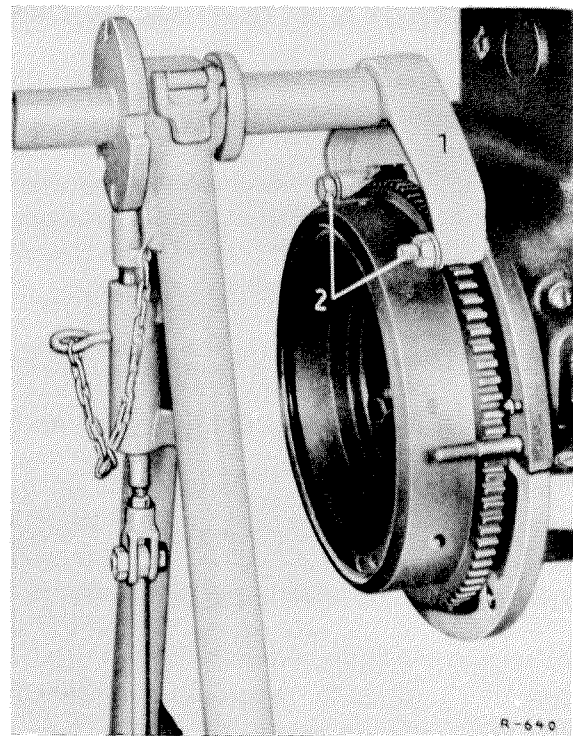

Figure 00-20/3
Note: As a safety measure and to allow locking of engine in 4 different positions a locking device (3) has been installed, which must engage properly in the locking disc (see Figure 00-20/1 and 00-20/3).